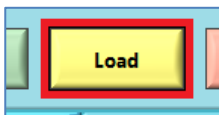

Figure 5.5-1: The **Load** Button.
1. Click the **Load** button on the **Manage Recipe** window. (Figure 5.5-1)